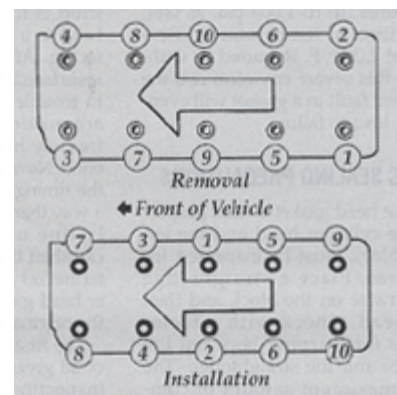

Fig 3. Install and tighten bolts in sequence to the specification
6. Remove the spark plug wires and distributor cap. Remove the cylinder bolts in the proper sequence and remove the cylinder head (see Fig. 3). Volvo recommends replacing the head bolts if they are stretched or used more than five times. As mentioned earlier, when in doubt, replace them!
2. Apply a light coat of oil on the new head bolts before installation. Install and tighten bolts in sequence to the specification using the three stages (also see Fig. 3). Start at 14 ft.-lbs., then go to 43 ft.-lbs., then go an additional 90 degrees.